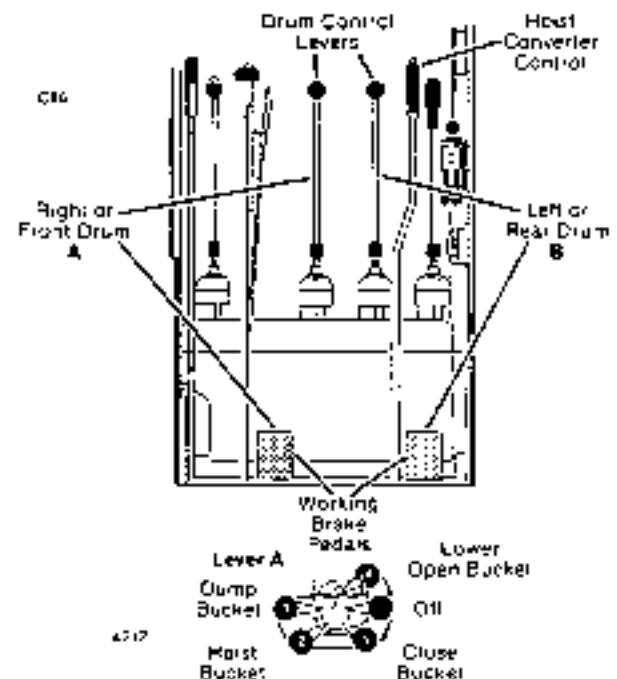

Figure 13 Drum Controls — Clamshell with CONT. PRES-SURE CLOSING
Clamshell with Controlled Pressure Closing Flexair Drum Control Valves (Figure 13)
9. With the bucket open and in the digging area, pull lever (A) back to Position 1, Figure 13 and release both brakes (A and B) to close the bucket.
10. When the bucket has closed completely, move lever (A) to Position 2, Figure 13 to hoist the bucket.
12. Move lever (A) forward toward position 3, Figure 13 to slow down the hoist speed as required.
14. When the bucket has been hoisted to the desired height, move lever (A) forward to Position 3, Figure 13 and apply brake (B) to dump the bucket.
15. Slowly apply brake (A) to control the dumping speed and to keep slack out of the closing line.
16. As soon as the bucket is empty, move lever (A) directly to Position 4, Figure 13 and release both brakes (A and B) to lower the bucket.
18. When the bucket is in the digging area, pull lever (A) back to Position 1, Figure 13 and release both brakes (A and B) to repeat the cycle.